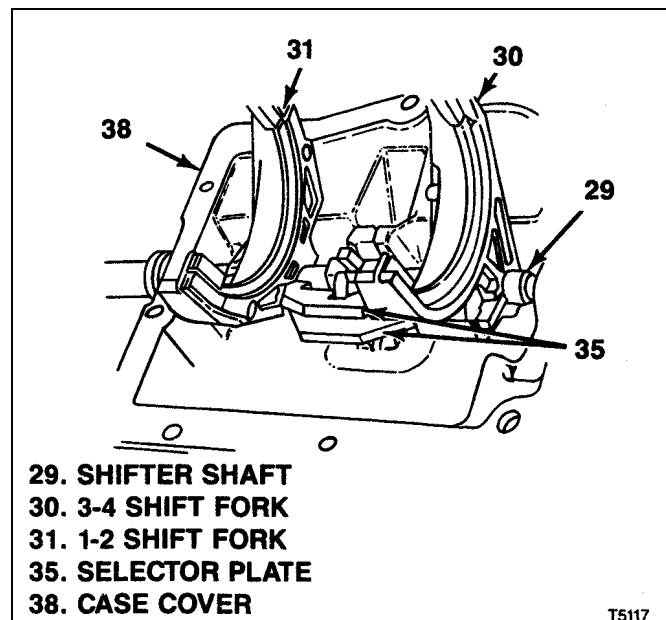

Figure 6-18. Installing T5 WC 3rd-4th Shift Fork
- g. Position 3-4 shift fork (30) (with inserts and selector plate) in case cover (38) so that selector plate (35) in 3-4 shift fork is between cover and selector plate (35) in 1-2 shift fork (31). Continue to push in shifter shaft (29) completely through 3-4 shift fork and into cover (see figure 6-18).
- h. Align pin holes in selector arm (28) and shifter shaft (29) and drive in selector arm pin (28) using suitable drift.
1. Rotate shifter shaft (29) so that pin hole through its free end is at 90 degree angle to open face of case cover (38).
2. Check that projection on selector arm assembly (33) is engaged in notch in selector plate (35) installed in 3-4 shift fork.
- j. Apply continuous 1/16 in. (1.6 mm) bead of sealant (Neutral Cure RTV, Loctite 598) all around transmission case (117) mounting face for case cover(38). Center sealant bead between edges of face. Circle bolt holes.
- l. Position case cover (38), with assembled parts, over transmission and gradually lower, engaging shift forks (30 and 31) with grooves in synchronizer collars in transmission. Lower case cover into position, moving it sideways just before it contacts transmission case (117) as required to align bolt holes.